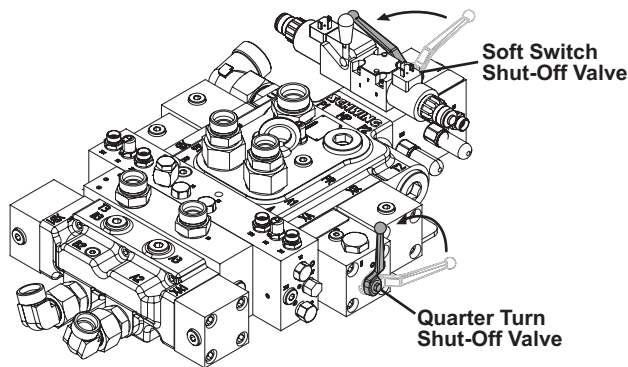

Figure 41
1. With the engine running, PTO engaged, and all E-stops cleared, increase the throttle to maximum RPM. Close the quarter turn and soft switch valve (Figure 41).